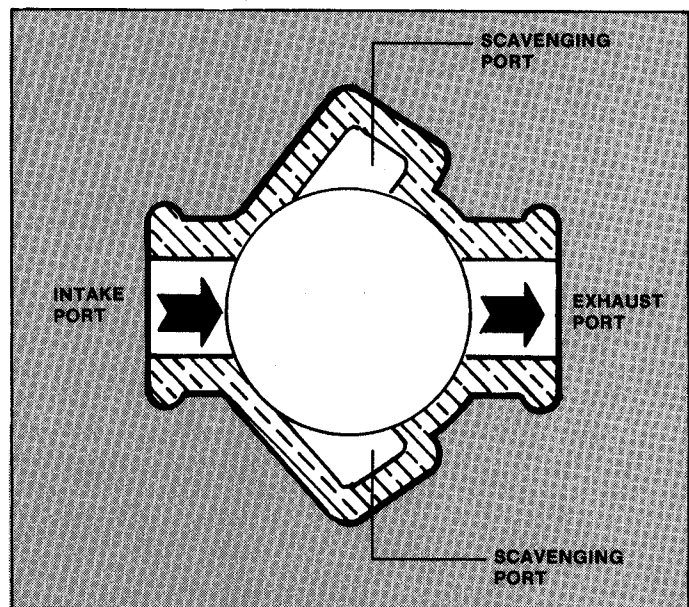

FIGURE 2.10
- A. The cylinder casting contains an intake port, exhaust port and two scavenging ports. The inside surface is porous chrome plated for improved durability. See Figure 2.10.